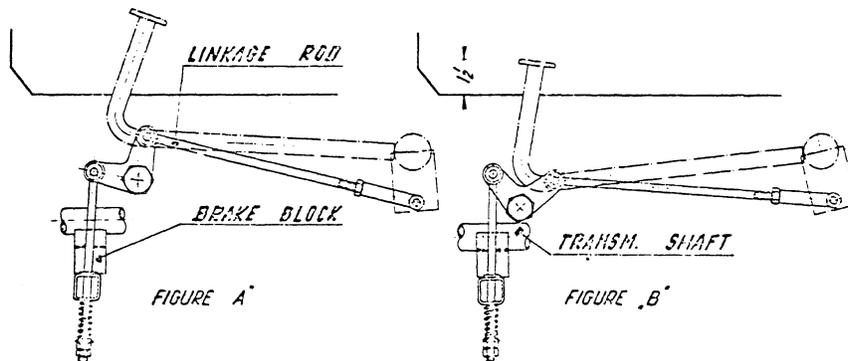

Fig. 7
3. Adjust brake by shortening or lengthening the linkage rod. See Figure 7.